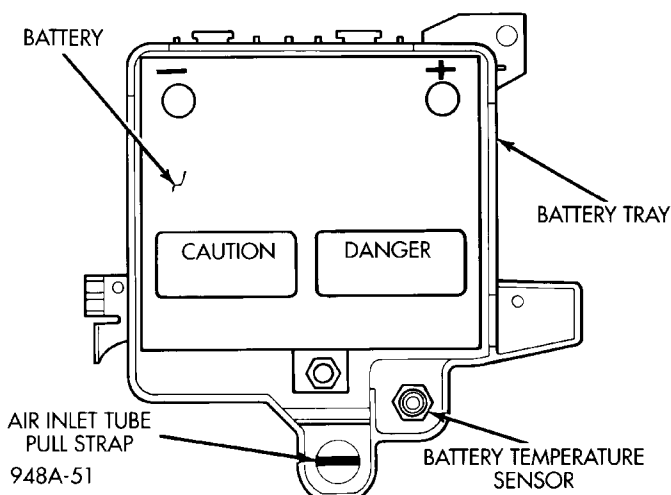

Fig. 22 Air Inlet Tube Pull Strap
- (4) Squeeze the sides of the tube at the pull strap lock tabs and push down through the hole in the battery tray (Fig. 22). DO NOT push directly down on the pull strap itself.
For installation reverse above procedures. Ensure that the lock tabs are properly seated in the radiator panel and to the bottom of battery tray (Fig. 22). Ensure that the tube opening is properly aligned with hole before pulling on strap.